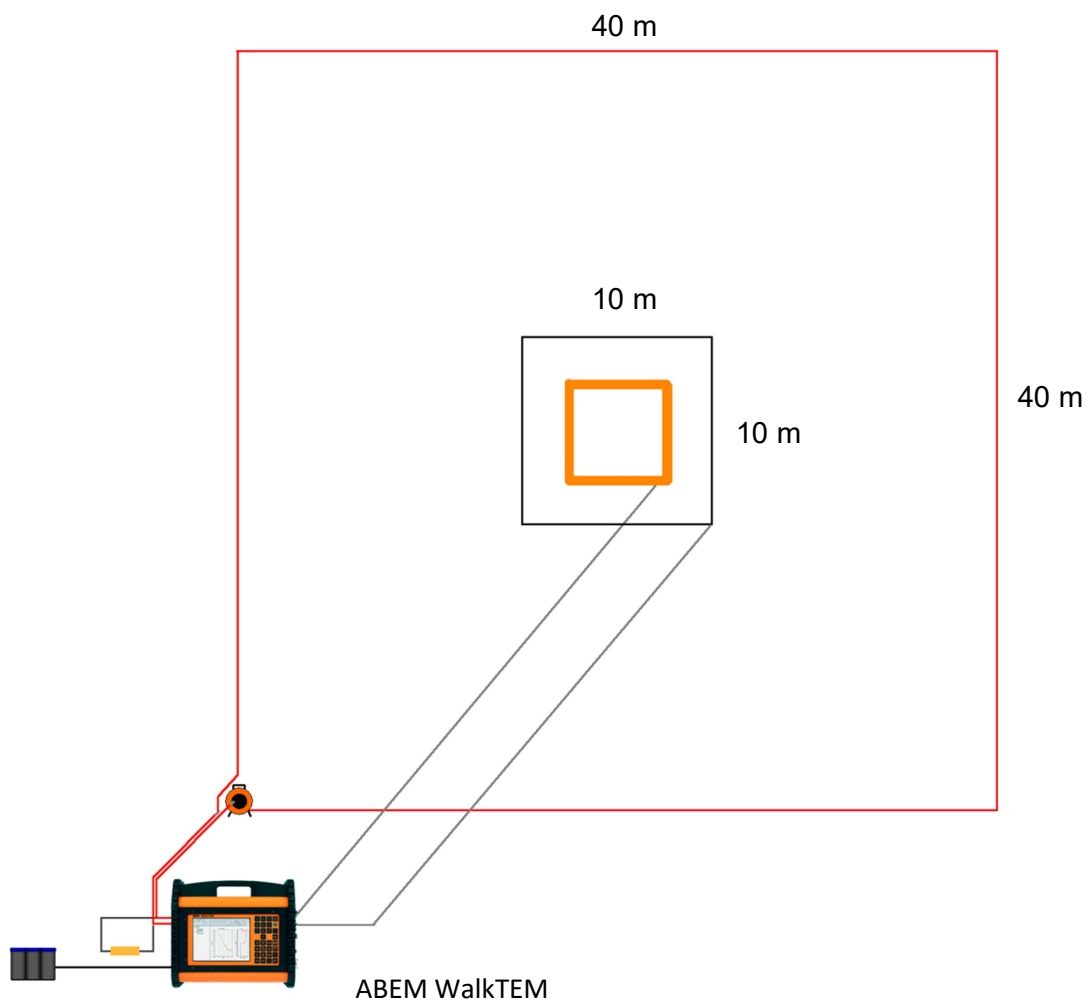

Figure 8. The ABEM WalkTEM field layout.
A typical field configuration for data acquisition using the ABEM WalkTEM is indicated in Figure 8. It comprises a 40 m x 40 m square transmitter loop, and either a small RC-5 receiver coil or the larger RC-200 receiver loop in a center configuration.
- 9) The ABEM WalkTEM layout is now complete, and should resemble that shown in Figure 8.